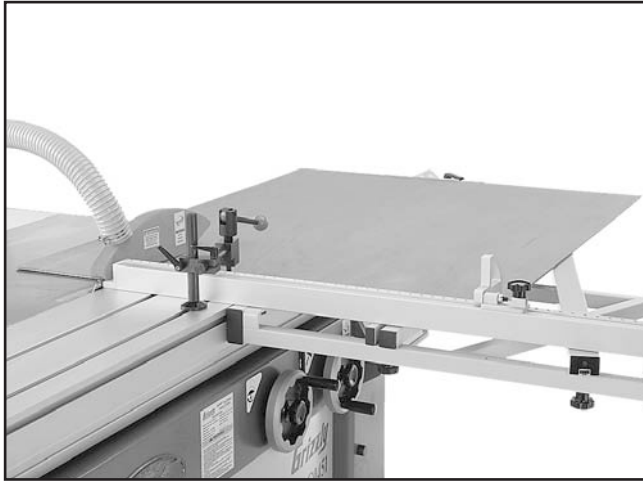

Figure 73. Rip cutting with the sliding table.
The Model G0451 has the capability of rip cutting full size panels (**Figure 73**). The sliding table removes the burden of sliding a large and heavy panel over a stationary table surface.
6. Load the workpiece onto the table saw. The set up should look similar to **Figure 73**.